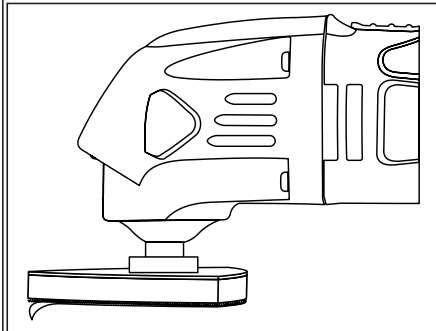

Fig. 4
3. To remove the sandpaper, simply peel the sandpaper away from the hook & loop pad (Fig. 4).